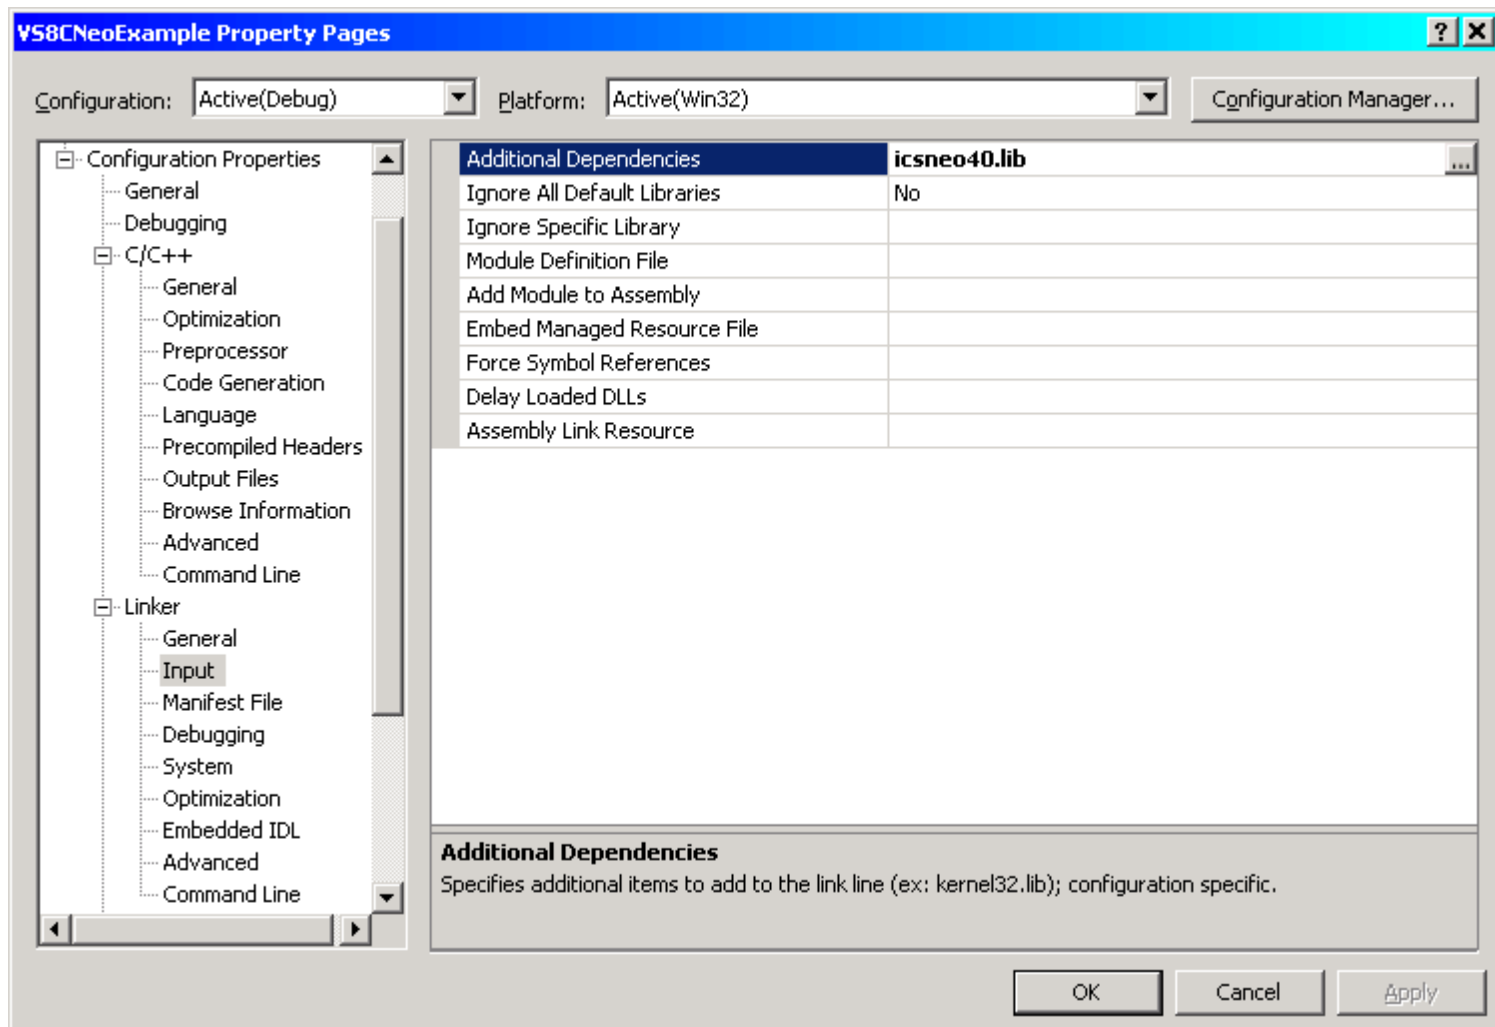

Figure 1 - Link to the "icsnVC40.lib"
2) Link to the icsnVC40.lib import library via the project settings (Figure 1). This dialog is accessible via the "Project" pull down menu in Visual C++ 2005.